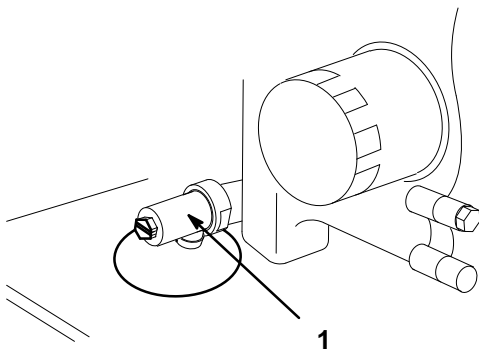

Figure 27
3. Place a pan below the oil drain. Use either a flat screw driver, 3/8” wrench or 10mm wrench to open valve (Fig. 27).
4. Rotate valve end clockwise to close valve. Rotate valve end counterclockwise to open valve (Fig. 27).
5. When oil has drained completely, close the drain valve (Fig. 27).